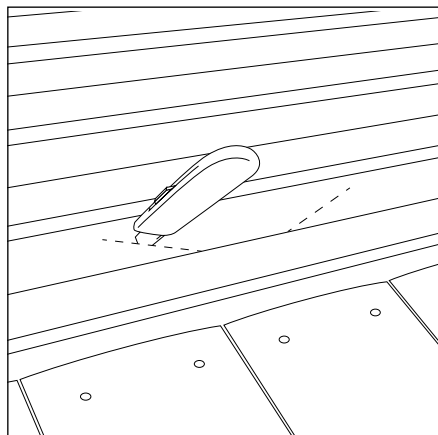

Fig. 1
- 1 Once the position of the vent has been determined, mark and cut the underlay in a V-shape to the size shown (Fig. 1).